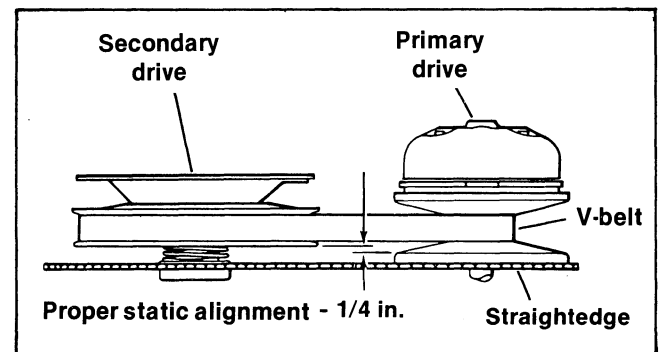

Figure 7-2. Transmission Static Alignment
2. See Figure 7-2. Check the alignment with a straightedge as shown. If flanges are misaligned, SPACER KIT, Part No. 36421-77 is available from the factory to correct misalignment. Install the spacer between the flange hub and differential flange to move the secondary drive forward. See SECONDARY DRIVE for repair procedures.